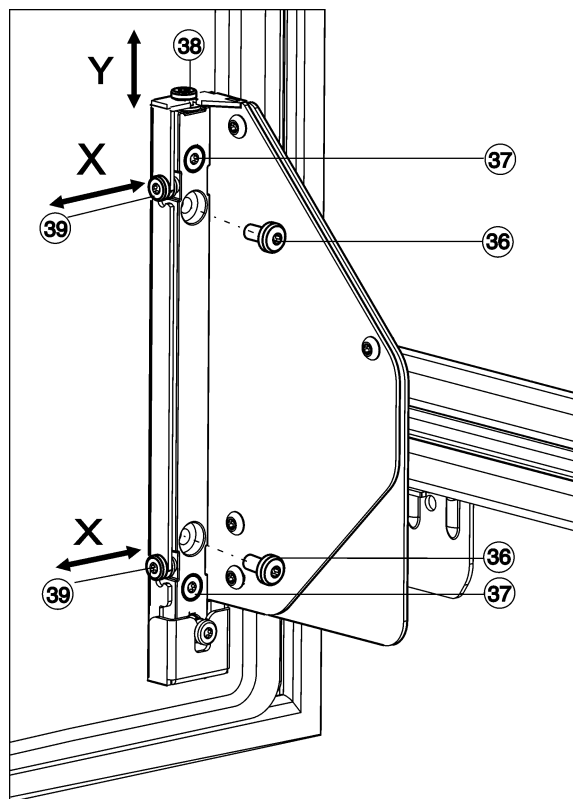

Fig. 27
- ▶ Unscrew and remove the screws Fig. 27 (36).
- ▷ Dispose of the screws Fig. 27 (36), they are no longer needed.
- ▶ Just loosen the screws Fig. 27 (37) by 1 to 2 turns.
- ▶ Turn the adjusting screw (38). Clockwise: for moving the door upwards by 4 mm max. Anticlockwise: for moving the door downwards by 2 mm max.
- ▶ Re-tighten all the screws Fig. 27 (37).
- ▶ If the screws Fig. 27 (36) are still present, unscrew and remove them.
- ▶ Turn the adjusting screws Fig. 27 (39) according to the lateral adjusting direction wanted.
- ▶ After having made the lateral adjustment, re-tighten the screws Fig. 27 (37).